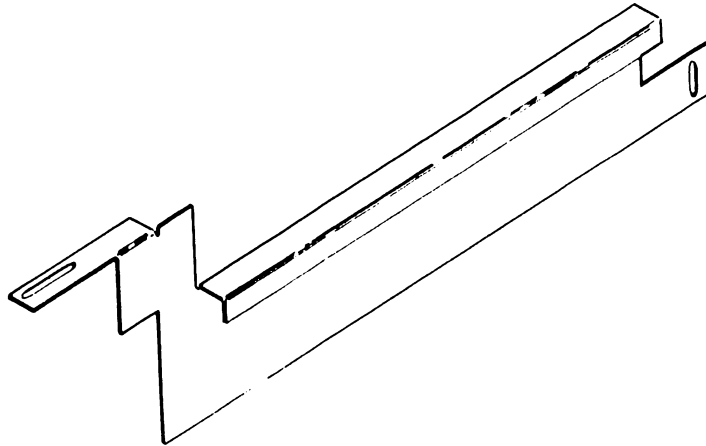
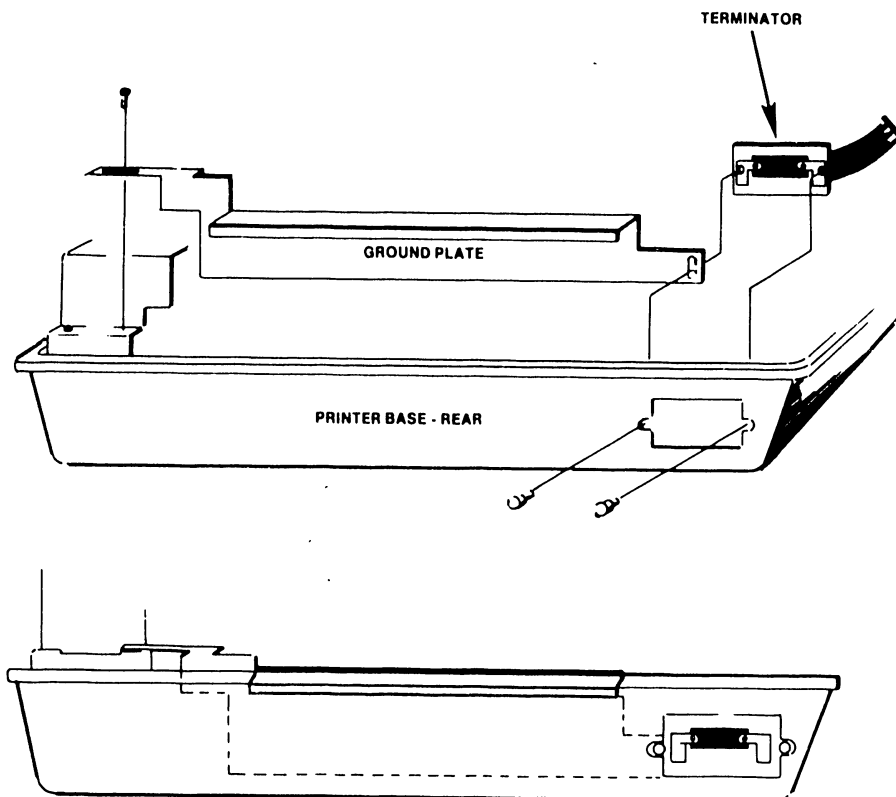

FIGURE 10
FIGURE 11
7. Install the new ground plate (figure 10) as shown in figure 11. Be sure that the lip of the ground plate overhangs the edge of the printer base.
4. Look at figure 10 to be sure the correct ground plate is installed in the printer. If it is not the correct ground plate, install a new ground plate, as shown in figure 11, after removing the terminator assembly as instructed in Section D, step 5. Reinstall the terminator assembly.